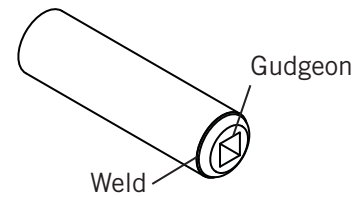

Figure 50
2) Figure 50. Insert the spline drive (Kwik Lock) or gudgeon (Classic Roll Tarp) and weld in place.